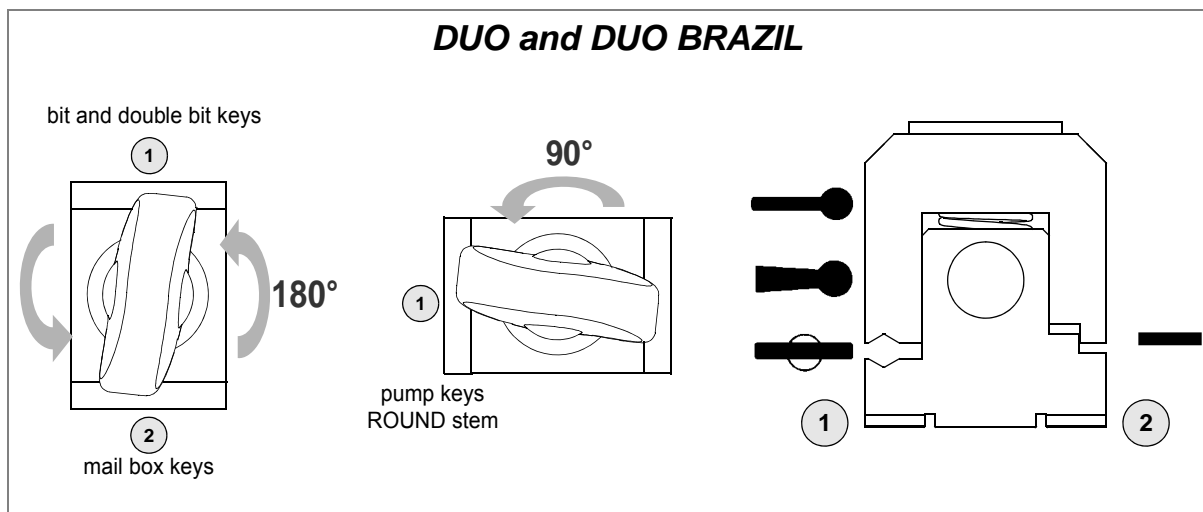
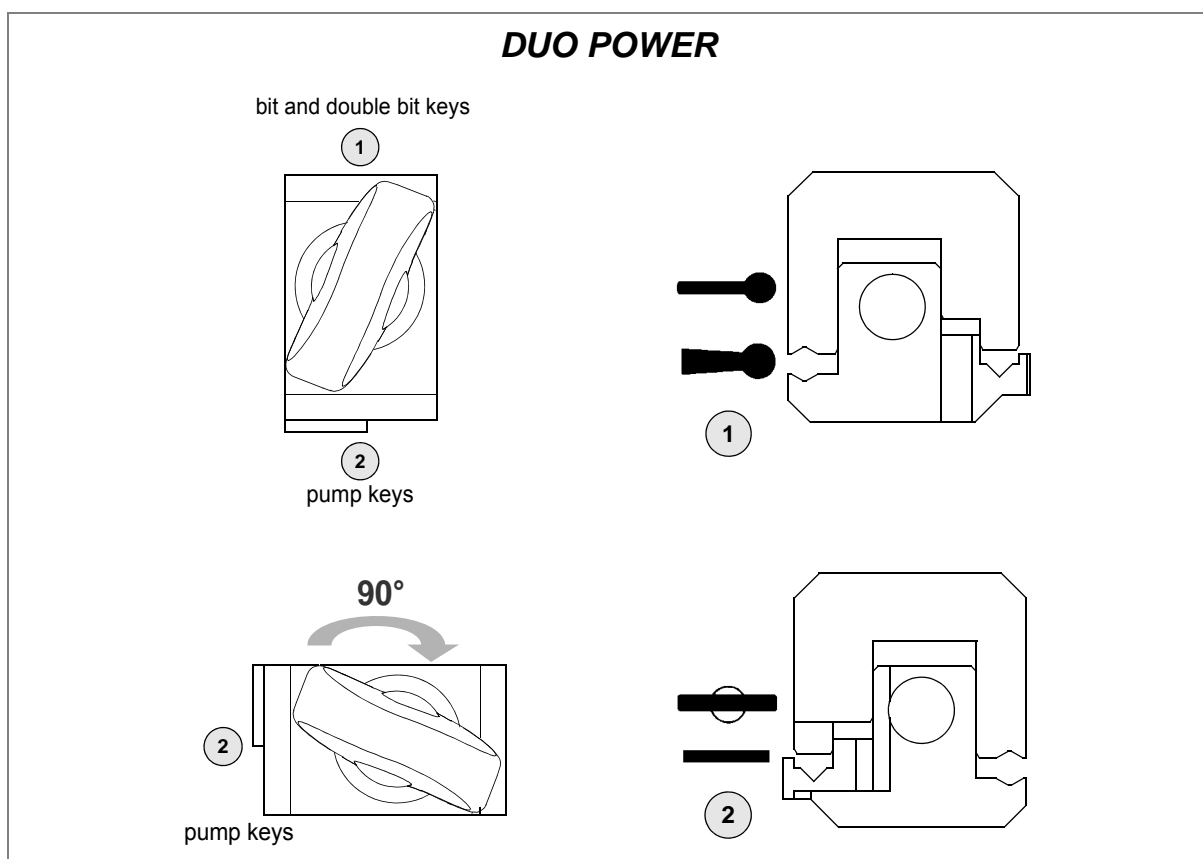

Fig. 38
Fig. 39
- 1) Turn the clamps to find the appropriate side for securing the key (fig. 38) (fig. 39).
- 2) Loosen the knobs (E) by a couple of turns.
- 1) Prepare the clamps with the required side facing the cutter and tracer point (fig. 38) (fig. 39).
- 2) Lock the clamps in the horizontal position by means of the pin (L).